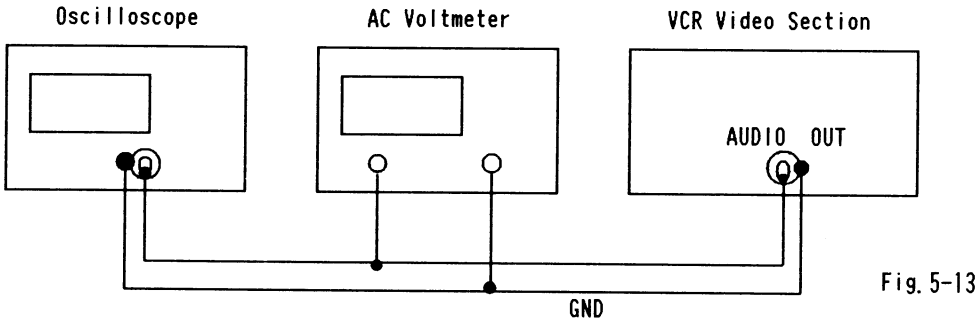

Fig. 5-13
1. Connect equipment as shown in Fig. 5-13.